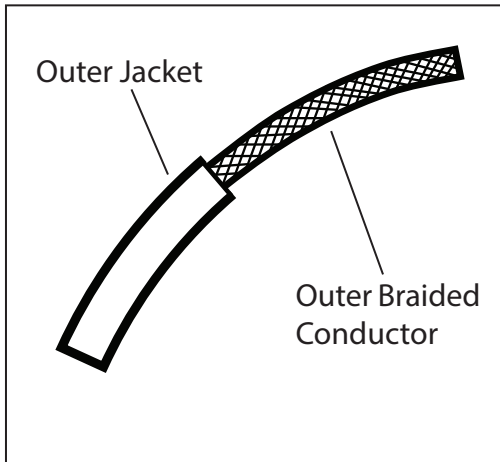

Fig. 1
1. Shut off power to the outlet box (A).
2. Determine the height at which the fixture is to be hung. Insert the steel cable (B) through the lock (C) and adjust to the desired length. To shorten the cable, push the cable (B) up and it will be locked automatically. To lengthen the cable, lift up on the cable and push up on the lock (C). While keeping the lock depressed, lower the cable to the desired length. Release the lock to set. Slide cord rings (D) as close to canopy (E) and fixture (F) as possible. (Figure 1)
3. Use the screwdriver to loosen the slotted set screw (G). Adjust height of cord. Tighten the set screw to set. Reserve extra cord in the canopy (E).
- a. Connect the LED driver's (H) live wire (black) to the live outlet box wire.
- b. Connect the LED driver's (H) neutral wire (white) to the neutral outlet box wire.
- c. Connect the canopy's ground wire (green or uncoated) to the ground outlet box wire. If no ground is present in outlet box, connect canopy's ground wire to the mounting plate (J) using the green screw (included).
5. Attach the mounting plate (J) to the outlet box (A), secure with outlet box screw (K).
6. Attach canopy (E) to the mounting plate (J), secure with screws (L).
7. Install the mounting brackets (M) to the ceiling with anchors (N) and screws (P), then screw the posts (Q) onto the mounting brackets. Adjust the steel cables (B) to level the fixture (F). To shorten the cable, push the cable up; to lengthen, push in the plunger while pulling down on the cable, release the plunger to lock.
(Figure 1)
1. Make a 1" slice along the length of the cord's outer jacket (Fig. 1). **CAUTION: Do not cut through the outer braided conductor.**
2. Carefully strip the outer jacket of the cord and keep the outer braided conductors intact (Fig. 1).